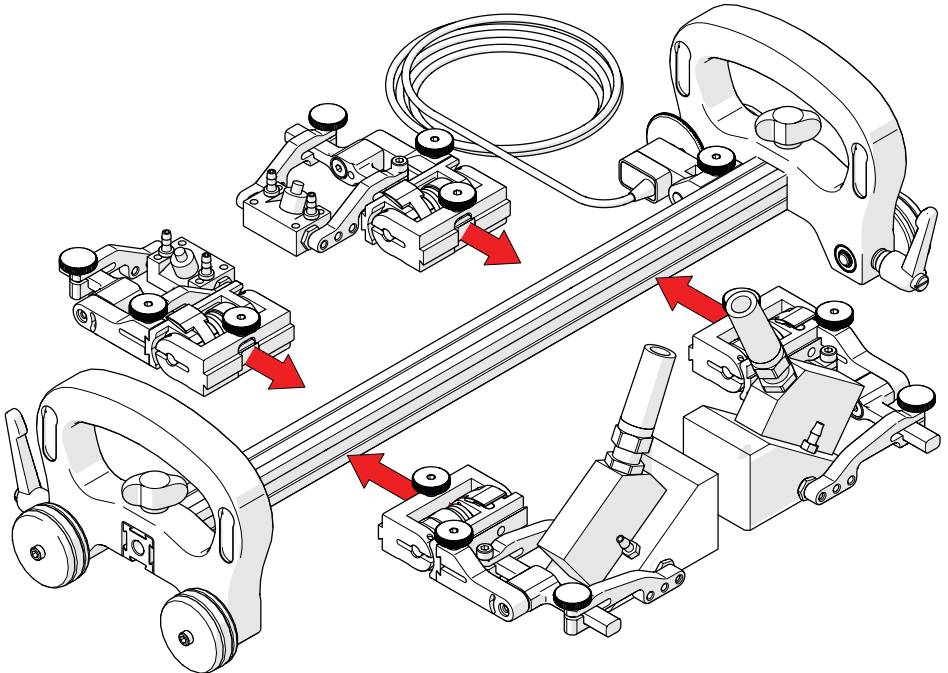

Fig. 10 - Attach probe holders to configuration
2. Assemble the appropriate configuration (Fig. 10). Attach the slip joint probe holders to the frame bar where appropriate.